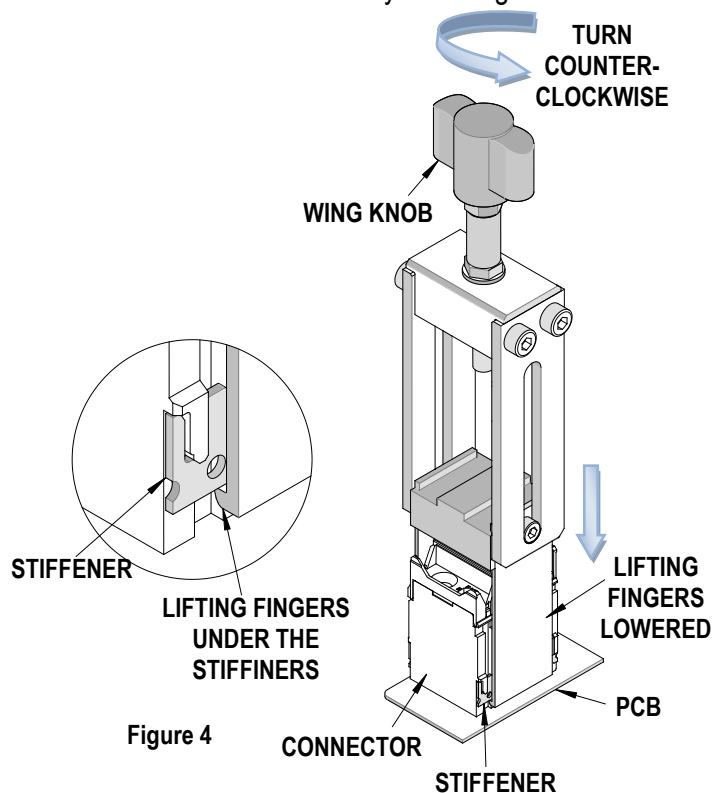

Figure 4
1. Turn the wing knob counter-clockwise (CCW) until the lifting fingers are exposed below the end supports. See Figure 4. (The stop screw will become disengaged from the lifting bar.)
2. Slide the lifting fingers down over the header assembly until the lifting fingers snap under the stiffeners on both sides of the header assembly. See Figure 4.